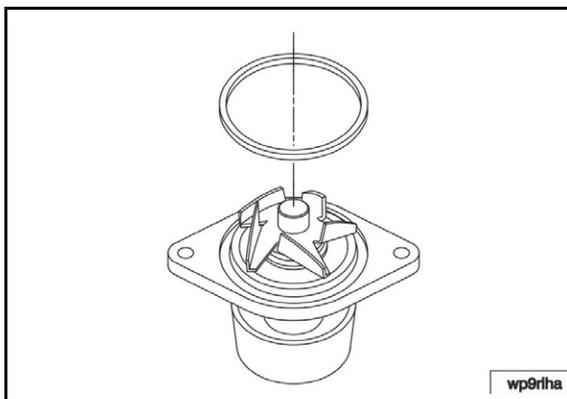

FIGURE 49. CLEAN THE O-RING SEALING SURFACE
7. Install the new sealing ring into the pump groove. See Figure 49.